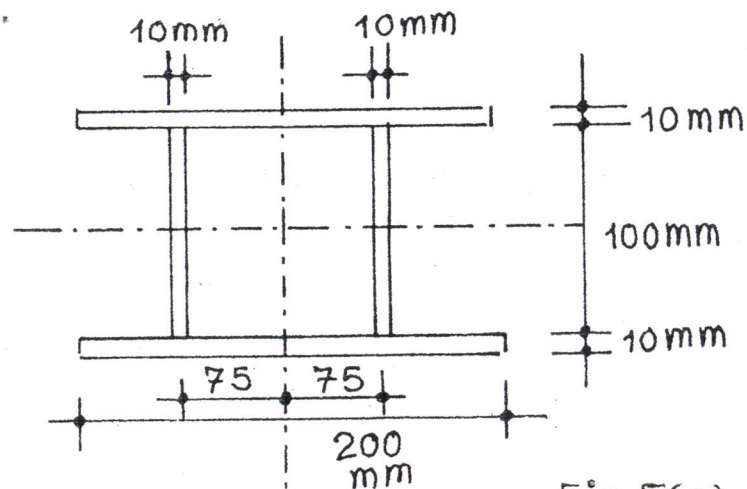

Fig.5(a).
Q.5 (a) A column of symmetric cross section shown in Fig.5 (a) is fixed at one end and hinged at the other end. If the buckling load given by Rankine's formula is  $1000 \text{ kN}$ , find the actual length of the column. Also find the buckling load by Euler's formula. Assume crushing stress =  $300 \text{ MPa}$ ,  $E = 200 \text{ GPa}$  and Rankine's constant  $a = 1/7500$ . (10)